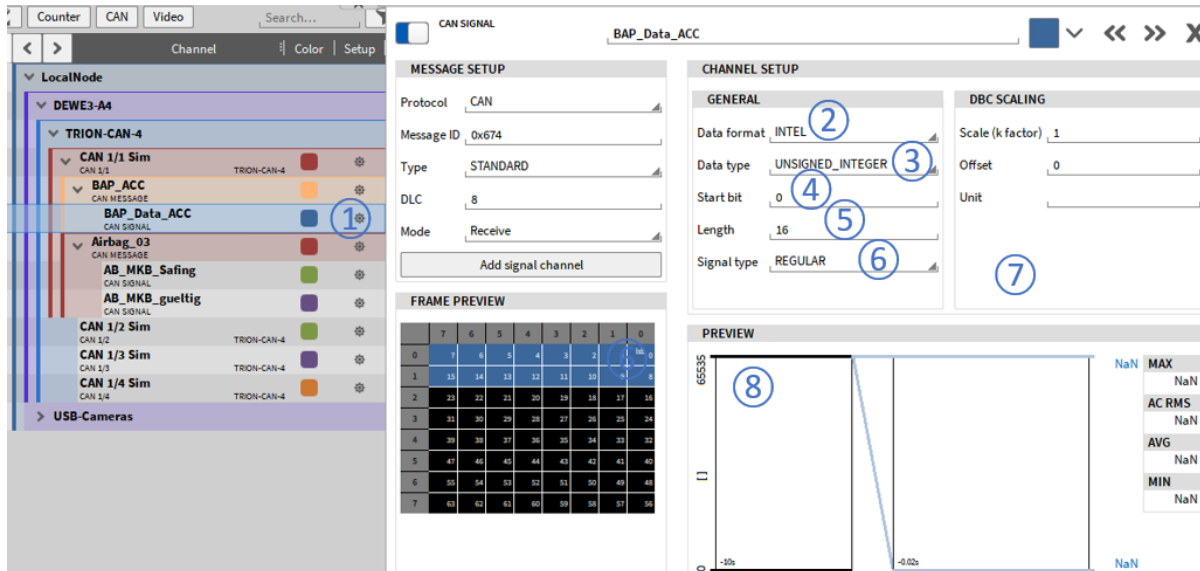

Fig. 7.207: CAN signal setup
The CAN signal setup can be accessed by pressing the gear button of the respective CAN signal in the Channel List (see ① in Fig. 7.207).
- Data format (see ② in Fig. 7.207): Intel or Motorola
- Data type (see ③ in Fig. 7.207): Double, Float, Signed Integer or Unsigned Integer
- Start bit (see ④ in Fig. 7.207): Define the start bit of the signal within its message
- Length (see ⑤ in Fig. 7.207): Define the length of the signal within its message
- Signal Type (see ⑥ in Fig. 7.207): Regular, Multiplexed or Multiplexor
- DBC Scaling (see ⑦ in Fig. 7.207): Change the scaling of the signal
- Preview: (see ⑧ in Fig. 7.207): The preview shows the past 10 seconds of the signal to check if proper settings have been applied to the signal.